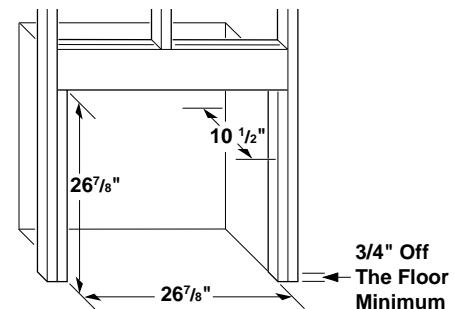

Figure 6 - Rough Opening for Installing in Wall
1. Frame in rough opening. Use dimensions shown in Figure 6 for the rough opening.